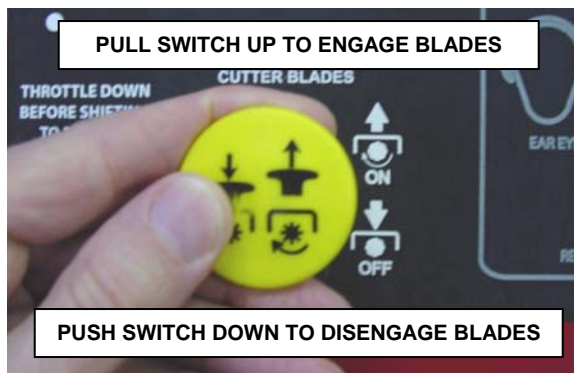

FIGURE 3.20
3. Pull Blade Clutch Switch up to the **ON** position. See Figure 3.20.
5. Push Blade Clutch Switch down to the OFF position when finished mowing. See Figure 3.20. NOTE: Turn off blades as soon as mowing operation is complete.